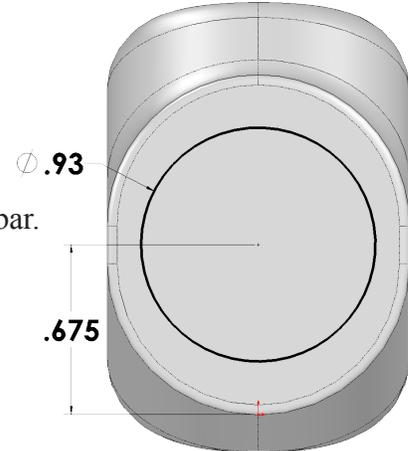

Fig. 30
Step 7. Click **Smart Dimension**  (S) on the Sketch toolbar.
Step 8. Add dimensions, **Fig. 30**.